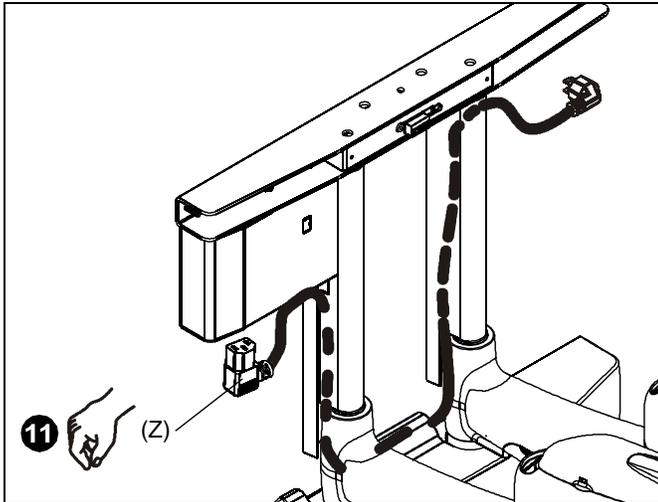

Figure 8
- Connect and route power cord (Z) through PXR cable management areas. (See Figure 8)